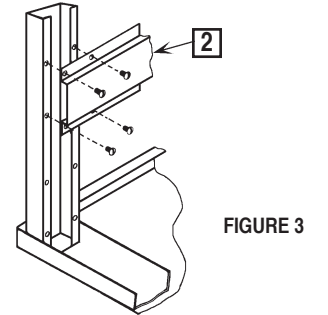

FIGURE 3
- The stringer (Item 2) is to be attached so the legs along the back edges of bench. (BORROUGHS is stamped on the front edge of Bench). Position stringer so that the holes in the end of the stringer are in line with the holes in the leg. Fasten stringer to leg with (4) screws and weldnuts (Items 6 & 8) as provided in **hardware pack 664**. See Figure 3. Repeat procedure at the other end. Tighten screws holding leg weldments and attachment channels together.